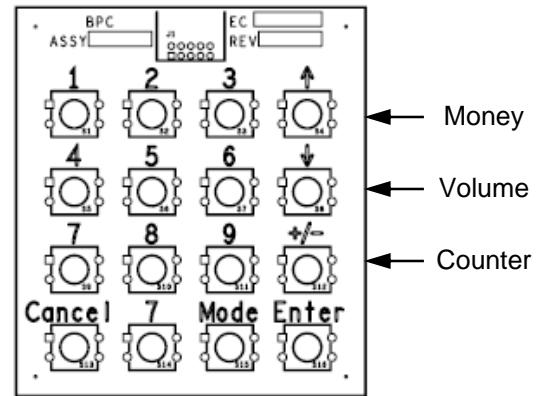
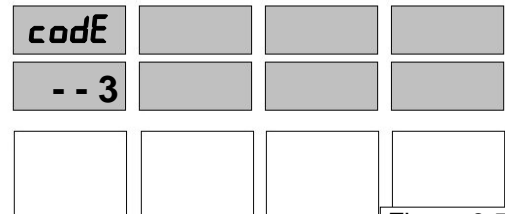

Figure 3.4
Figure 3.5
- Press the ↑ button (see Figure 3.4). The display show all zeros. See Figure 3.5.